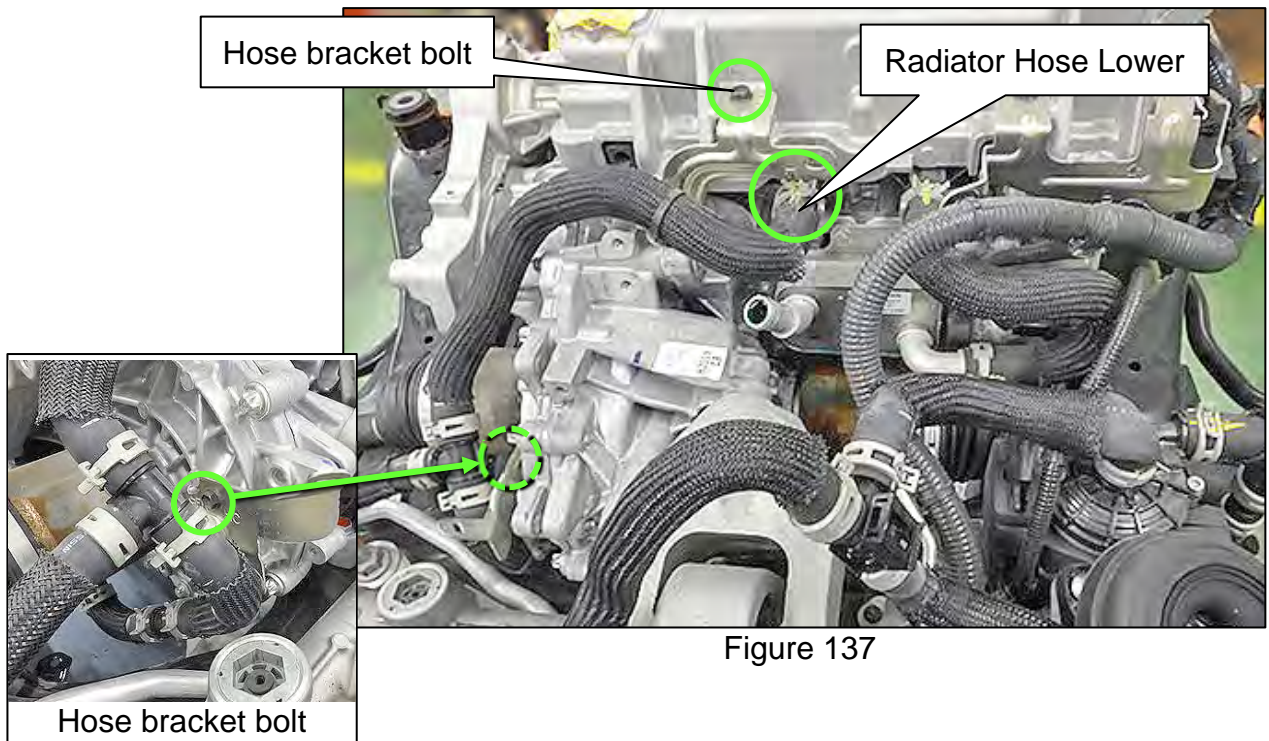

Figure 137
160. Install Radiator Hose Lower (Figure 137).
161. Attach the two (2) hose brackets shown in Figure 137.